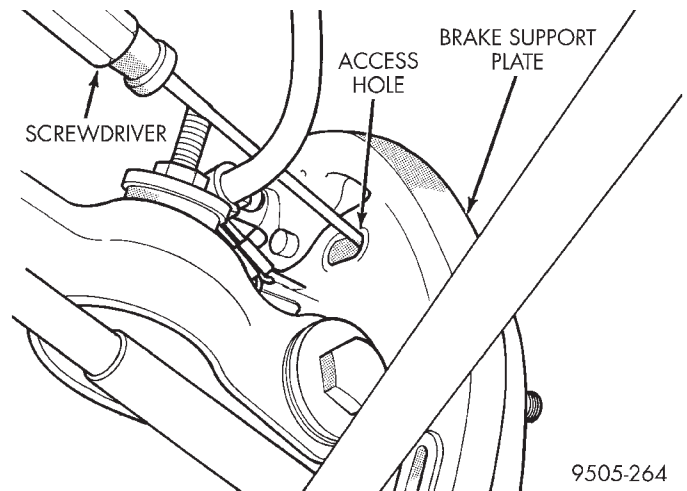

Fig. 121 Backing Off Rear Brake Shoe Adjustment
(2) Insert a screwdriver, through the automatic adjuster access hole, in the rear brake support plate (Fig. 121). Engage screwdriver with the teeth on the adjuster mechanism quadrant. Then rotate quadrant so that the teeth on the quadrant are moved toward
the front of the vehicle (Fig. 121). This will back off the adjustment of the rear brake shoes.